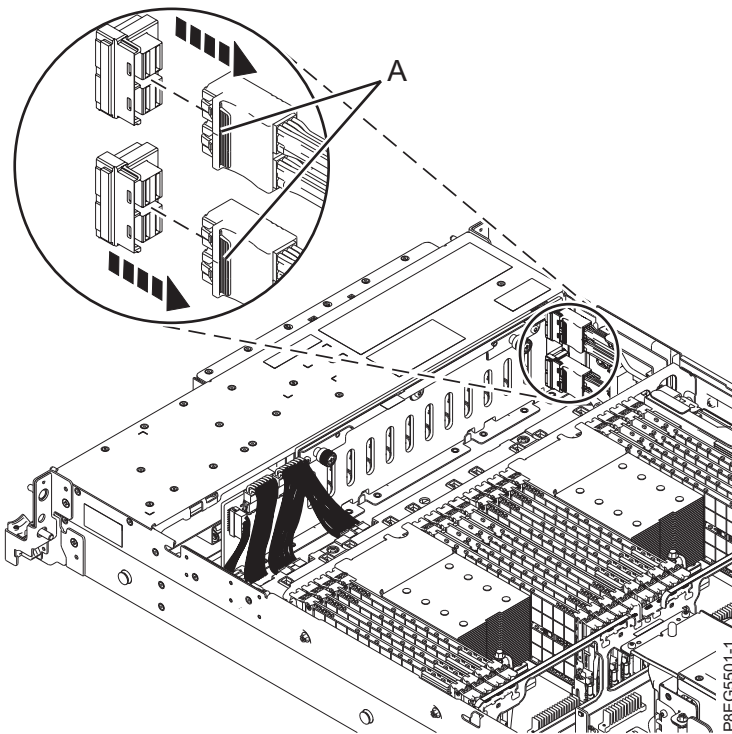

Figure 10. Removing the front SAS cables from the disk drive backplane
3. Label the front SAS cables that are attached to the SAS RAID internal adapter that you want to remove. Press the latch (A) and unplug the connector of the cable from the disk drive backplane, as shown in Figure 10. Leave the other end of the cables plugged in to the P1 or P2 connector on the SAS RAID internal adapter until directed to unplug them.